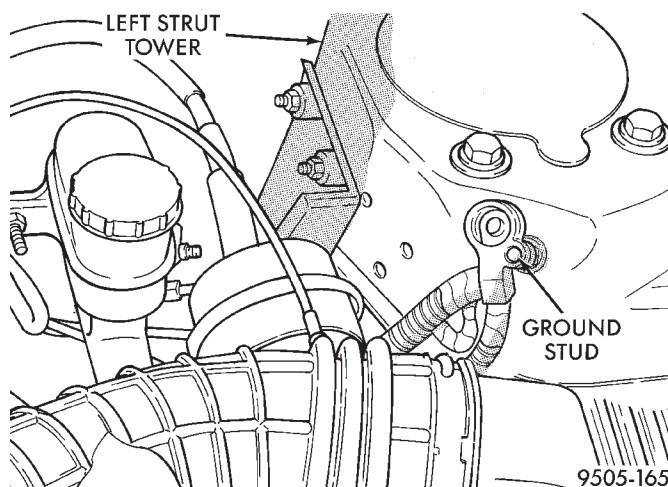

Fig. 12 Correctly Isolated Remote GroundCable
(2) Correctly isolate remote ground cable when servicing vehicle by installing the ground cable insulator on the strut tower ground stud as shown (Fig. 12). **This will prevent accidental grounding of the remote ground cable.**